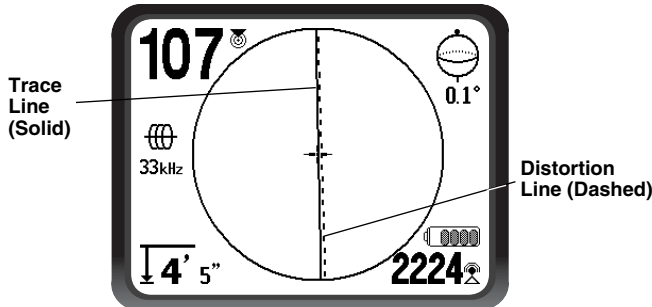

Figure 27 – High Probability Locate
signal. (See Figure 27 below). The signal should peak over the line and drop off on either side. The Signal Angle indicator will be near zero when the NaviTrack II is directly above the line.
3. When tracing, the direction the pipe or cable is running will be shown on the screen with 2 lines, one solid and one dashed. The solid line (the Tracing line) is the signal as seen by the lower antenna node and the dashed line (the Distortion Line) is the signal as seen by the upper one. (See Figure 27.)